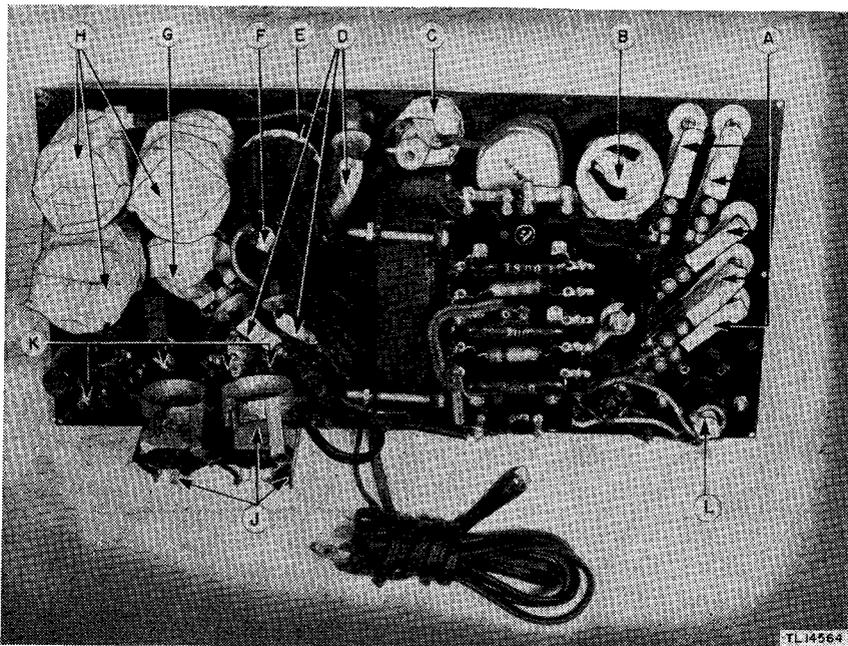

Figure 10. Tube Tester I-177, bottom view, masking for moistureproofing and fungiproofing.
(2) **MASKING:** Cover the following components with masking tape as shown in figures 10 and 11:
- (a) Contacts of 5 pushbutton switches, item A, figure 10.
- (b) Variable rheostat, item B, figure 10.
- (c) Holes in wafer and casing of micromhos selector switch, item C, figure 10.
- (d) Three pushbutton switches, item D, figure 10.
- (e) Holes in case of filament switch, item E, figure 10.
- (f) Switch contacts on rear of filament selector switch, item F, figure 10.
- (g) Line adjustment rheostat, item G, figure 10.
- (h) Three wafer switches (A, B, and SHORT-TUBE TEST), item H, figure 10.
- (i) Contacts of sockets for vacuum tubes 83 and 5Y3, item J, figure 10.
- (j) Contacts on tube sockets A, B, C, and D, item K, figure 10.
- (k) Contact on acorn socket, item L, figure 10.